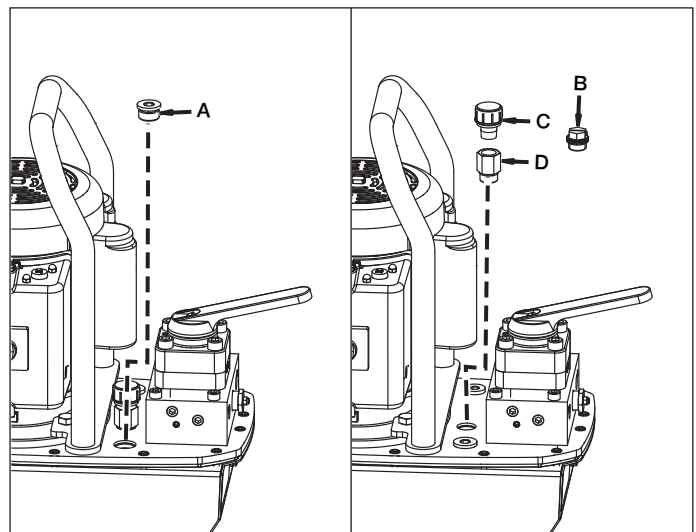

Figure 3: Reservoir Oil Fill Plug and Air Breather
If oil level is low, remove the oil fill plug (A) from the pump cover plate and add oil as required. See Figure 3. Note that ZW2 models include an oil fill extension tube which is shown in Figure 1.
A shipping plug (B) is installed in the pump coverplate. See Figure 3.